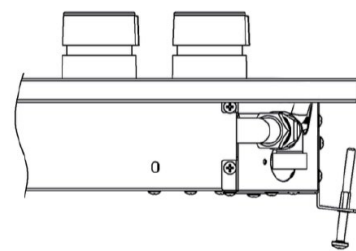

Figure 3
4. Once brackets are inserted properly, tighten each screw by hand into the countertop above and ensure every connection is snug. Then tighten with a Phillips-head screwdriver to secure the unit (see Figure 3).